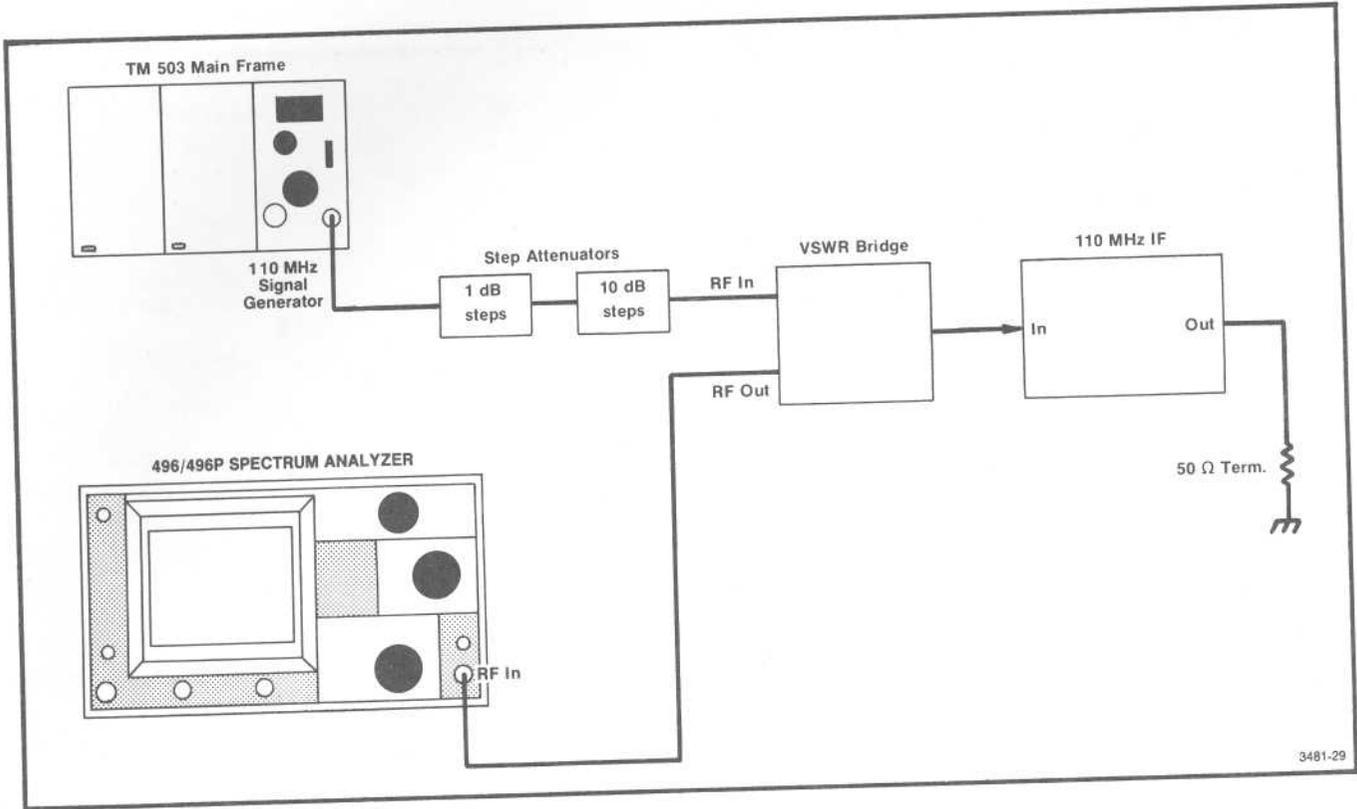

Fig. 4-9. Test equipment setup for adjusting return loss of the 110 MHz IF assembly.
1. Test equipment setup is shown in Fig. 4-9. Apply 110 MHz at 2 V peak to peak (+10 dBm) through 35 dB attenuation to the RF Input of the VSWR bridge. Connect the RF Out of the VSWR bridge to the RF Input of the spectrum analyzer. (Do not connect the 110 MHz IF to the VSWR bridge.)